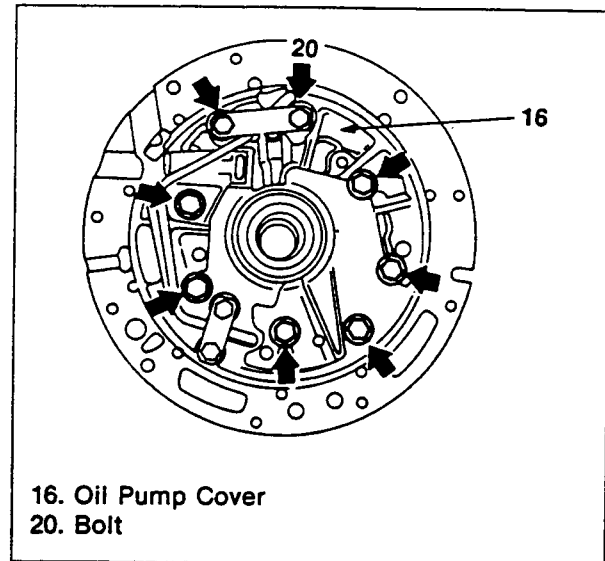

Figure 59. Oil Pump Cover Removal (2)
3. Place the oil pump housing on a wooden block, etc., and remove bolts (8 pcs) from the cover (figure 59).